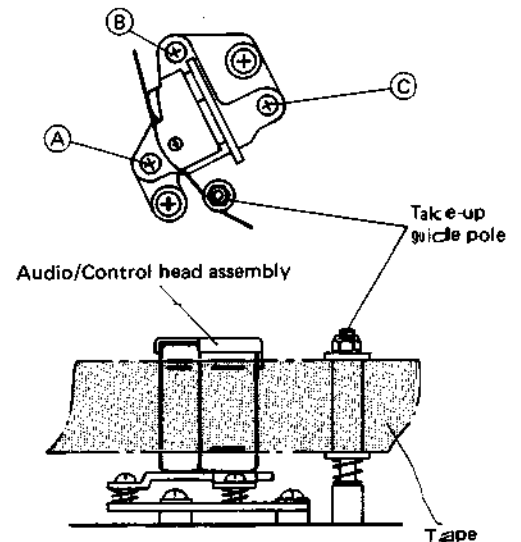

Fig. 4-16 A/C head adjustment
2. Turn screw (C) (Fig. 4-16) and adjust for smooth transport at the take-up guide pole. Do not adjust the height of the take-up guide pole itself.